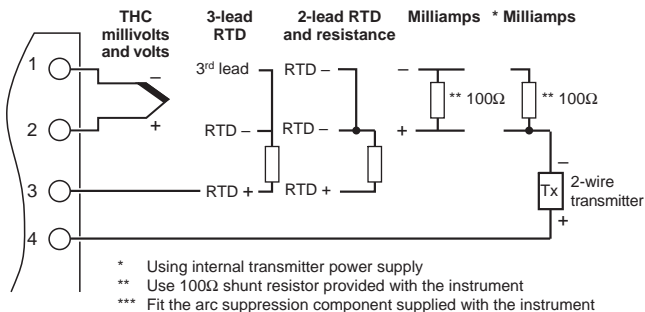

Fig. 5.6 Electrical Connections
5.4 Electrical Connections – Fig. 5.6 (overleaf)